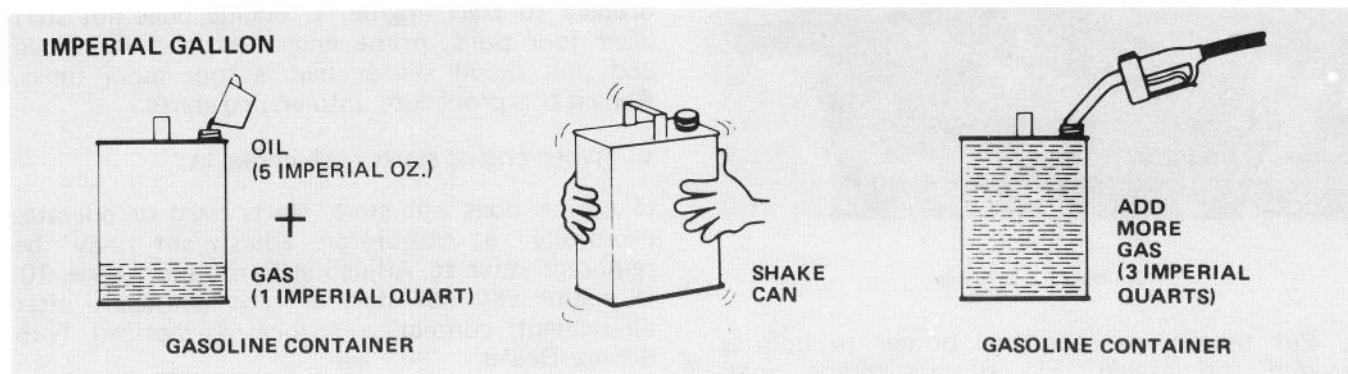

Figure 5B
1. Add 1 Imperial quart of unleaded or leaded **REGULAR** gasoline to a gasoline container (Fig. 5B).
2. Pour 5 Imperial oz. of two cycle engine oil into the gasoline container (Fig. 5B). **DO NOT** use multi-viscosity oils.
3. Shake the gasoline container vigorously so oil mixes with gasoline (Fig. 5B). Remember to install cap on gasoline container before shaking.
4. Add an additional 3 Imperial quarts of gasoline to the gasoline container (Fig. 5B).